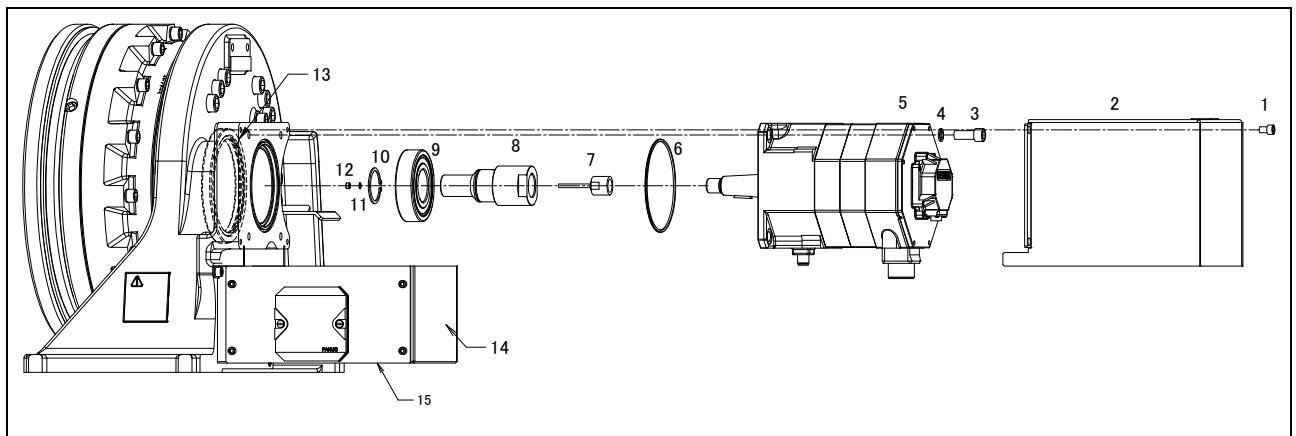

Fig. 6.1.2 Replacing the motor (1000kg/1500kg payload (Hollow type))
- 6 Remove the motor mounting bolts (3) and washers (4), and remove the motor (5).
- 7 Attach the gear to a new motor, and reverse the removal steps to mount the motor. Replace the O-rings with new ones, and put the new O-ring (6) in place. See Fig. 6.1.2 below table for the tightening torque and LOCTITE application.